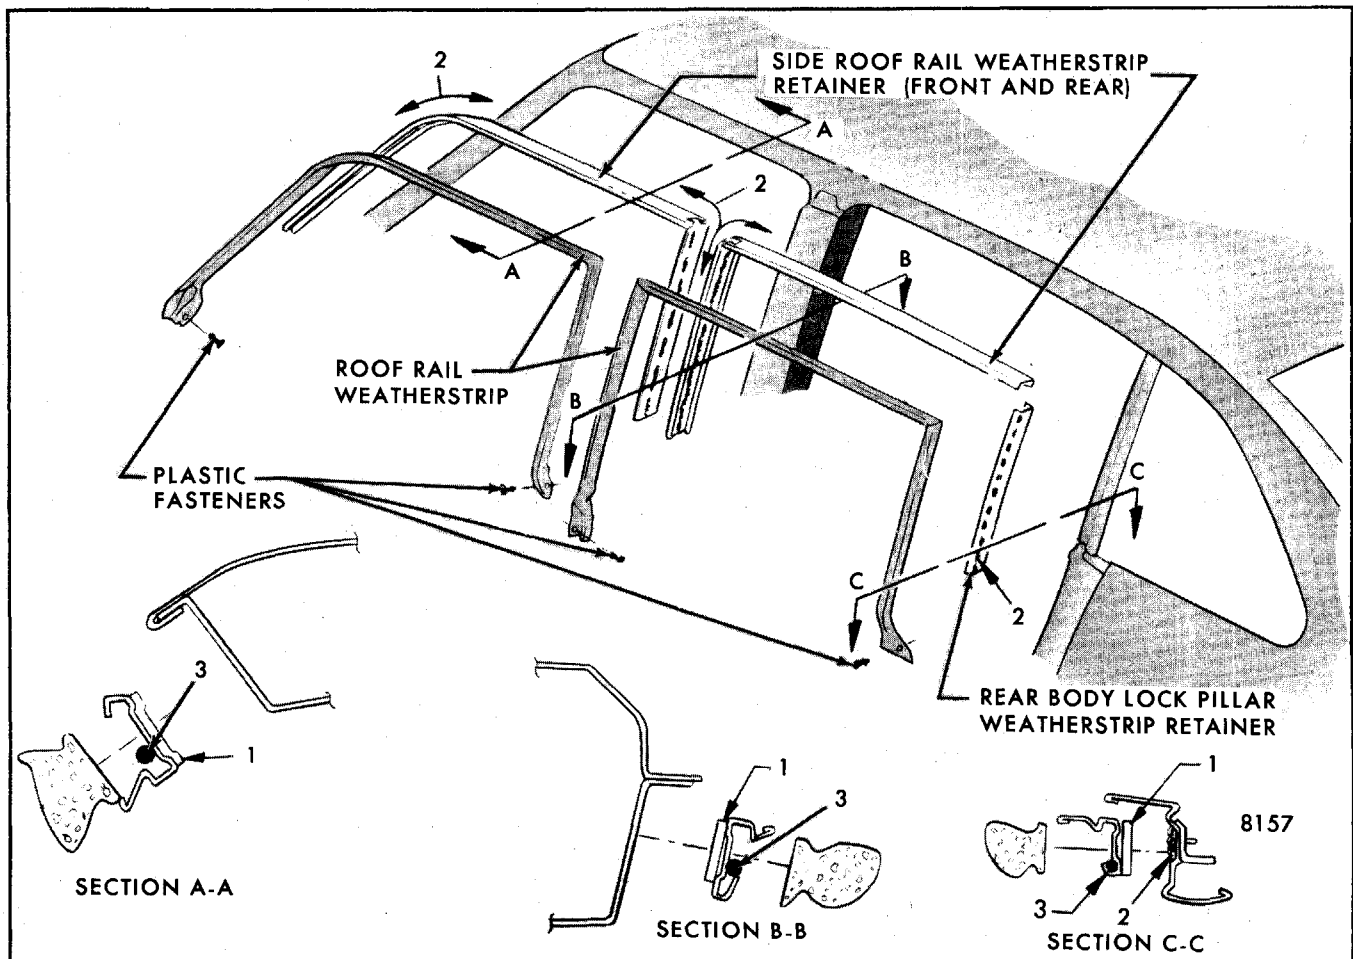

Fig. 5-37-Side Roof Rail Weatherstrip and Weatherstrip Retainer - "A" Four-Door Styles Shown, Other Styles Similar
The side roof rail weatherstrip is sealed to a weatherstrip retainer which, in turn, is sealed to the body by a nitrile foam material (item 1, Fig. 5-37) bonded to the retainer. Additional pumpable sealer is applied in corner areas to assure a good seal against air and water. Plastic fasteners retain the ends of the weatherstrip to the body.
NOTE: Major retainer adjustments will require resealing retainer to body at upper corners of retainer(s) and full length of rear body lock pillar retainer on "A" four-door styles as described in step 2 of weatherstrip installation procedure (item 2, Fig. 5-37).
1. Remove plastic fasteners at front and rear of side roof rail weatherstrip (Fig. 5-37 is typical of all styles at front hinge pillar) with tool J-21104 or equivalent.
2. Apply a continuous bead of a pumpable type body caulking compound 4" rearward and 4" down from front and rear upper corner of retainer that mates with side roof rail, and along full length of rear body lock pillar retainer on "A" four-door styles (item 2, Fig. 5-37). Apply bead outboard of attaching screw holes.
4. Apply a continuous bead of pumpable sealer to inboard flange of weatherstrip retainer (item 3, Fig. 5-37). Then apply black weatherstrip adhesive to the front and rear end details of the side roof rail weatherstrip.
5. Position front end of weatherstrip to body and install plastic fasteners. Using a flat-bladed tool, engage weatherstrip with retainer, inboard lip first; then outboard lip (refer to Sections "A-A", "B-B" and "C-C", Fig. 5-37).